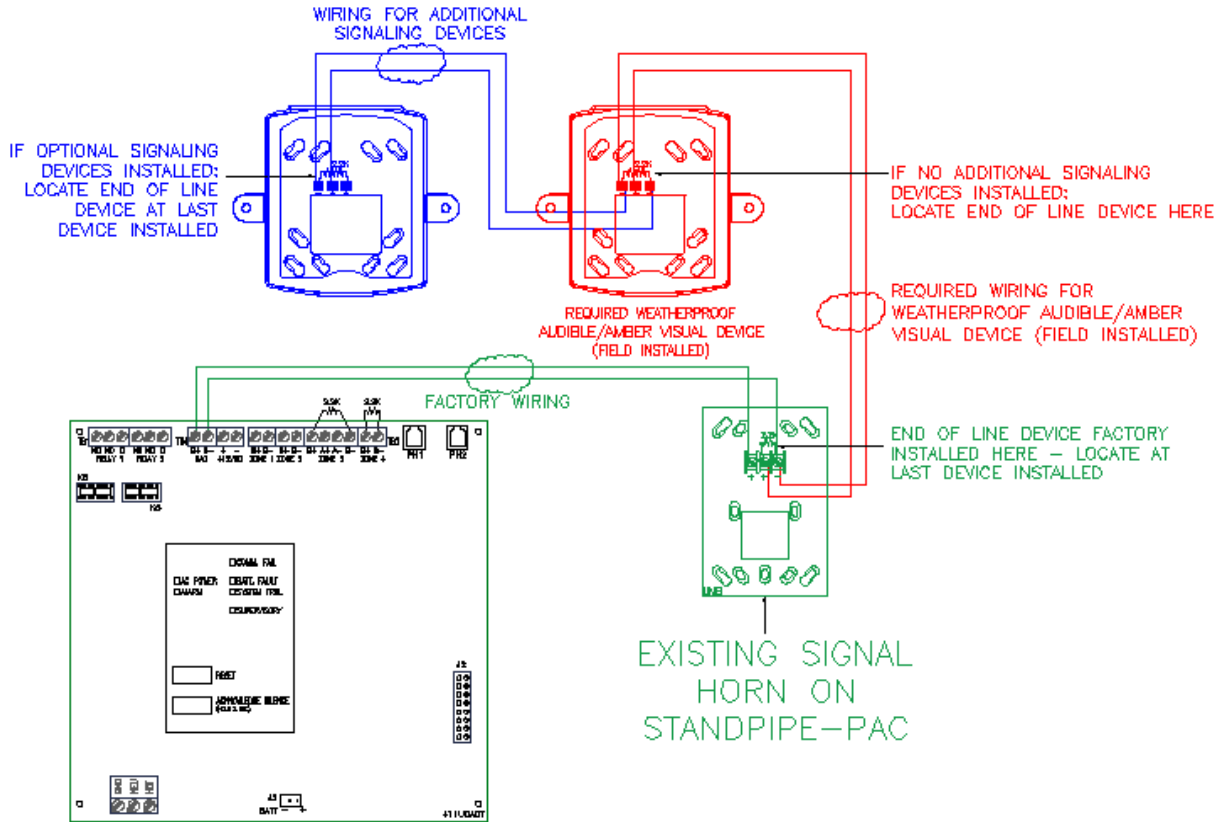
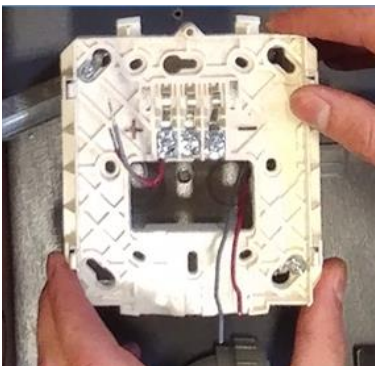

Figure 12 – Wiring Diagram – Notification Appliance Circuit
Figure 13.7
3.3.5.5.1 Signal Wiring. See Figure 12.
3.3.5.5.2 Factory-Installed Signal Horn. An audible signal horn is factory-installed and wired to the notification appliance circuit of the **STANDPIPE-PAC™** unit. See **GREEN** section of Figure 12.
3.3.5.5.3 Required Remote Weatherproof Audible / Amber Visual Device. Per Boston FD TCM3-51725, a remote weatherproof audible / amber visual device is to be installed immediately outside the location of the **STANDPIPE-PAC™** unit. Wire and connect this device as shown. If this is the last device in line, re-locate the end-of line resistor from the factory-installed signal horn to this device. See **RED** section of Figure 12. Mount identification nameplate near device.
3.3.5.5.4. Optional Signaling Devices. If additional audible devices are desired, connect these devices to the notification appliance circuit serving the signal horn on the **STANDPIPE-PAC™** unit. See Appendix D for additional information, including power capacity of notification appliance circuit. See **BLUE** section of Figure 12. Additional horns are available from UNITED Fire Systems – P/N 03-100006-201.
9. See **Figure 13.7** Re-install Signal Horn base plate to back box on **STANDPIPE-PAC™**.
10. See **Figures 13.7, 13.8** and **Figure 12 Wiring Diagram**. Strip ends of wire installed in Step 8. Attach wires removed in Step 5 and wires installed in Step 8 to Signal Horn base plate terminals.
| ✓ Do wire additional devices per Figure 12. The end-of-line resistor must be moved to the last device in the circuit per Figure B. | ✗ Don't exceed the current capacity of the circuit when adding additional horns to the STANDPIPE-PAC™ . Each additional horn adjusted to FULL VOLUME draws 0.047 amps. As noted on page 1, the current for all external devices, including the factory-installed signal horn, is 1.0 amp. |
| ✓ Do use RED and GRAY wire for (+) and (-) conductors so it is easy to maintain polarity. | ✗ Don't branch the signaling circuit. Wire horns in parallel, from one horn to the next. See Figure 12: Wiring Diagram . |